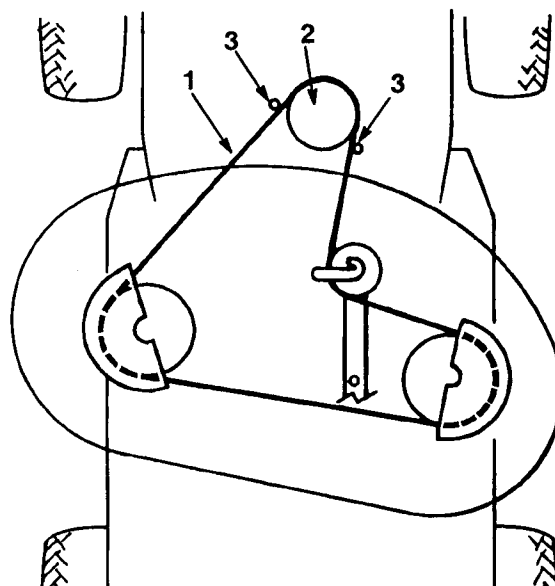

Figure 42
10. Remove the mower belt from the lower engine pulley (Fig. 42). If you are careful, you can flex the belt guide(s) just far enough away from the pulley to remove the belt. If it is too difficult to remove the belt, loosen the bolts and nuts securing the belt guides.
4. Install mower belt onto the lower engine pulley (Fig. 42). If you are careful, you can flex the belt guide(s) just far enough away from the pulley to install the belt. If it is too difficult to install the belt, loosen the bolts and nuts securing the belt guides. If it is too difficult to install the belt, loosen the bolts and nuts securing the belt guides.